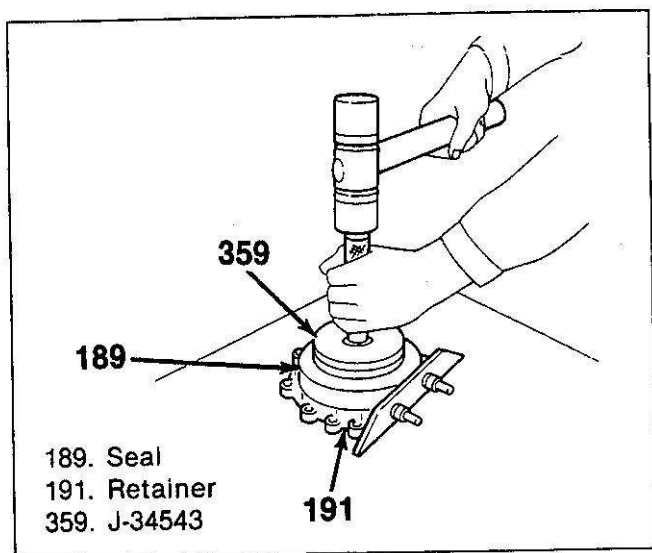

Figure 104. Installing Rear Oil Seal into Retainer
- Drive the seal (189) into the retainer (191), using tool J-34543 (figure 104).